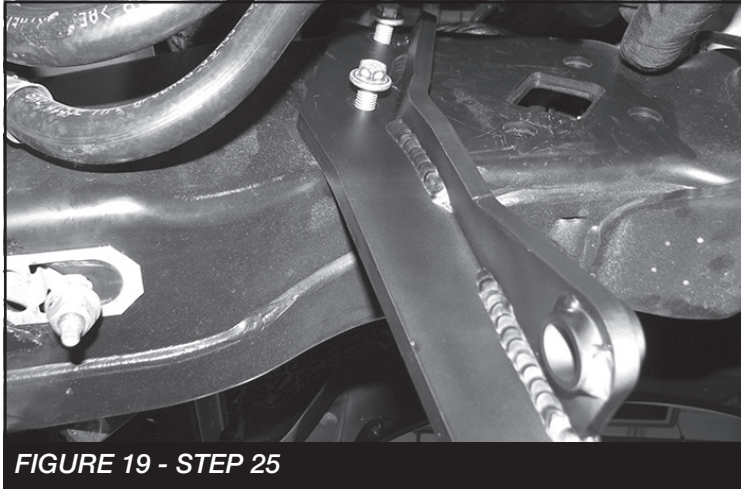

FIGURE 19 - STEP 25
25. Install FT30672 (steering stabilizer drop bracket) in the factory location using the factory hardware. Torque to 127 ft-lbs. **SEE FIGURE 19**